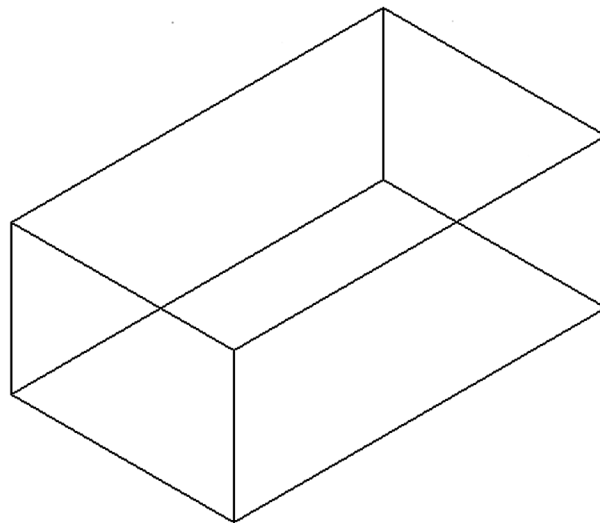

FIGURE 21.22 Extruded box.
Step 3. You can move your mouse up and down and create a thickness in real time, but it is more practical to type in a value, so go ahead and type in 4 for the thickness. You should see what is shown in Fig. 21.22.